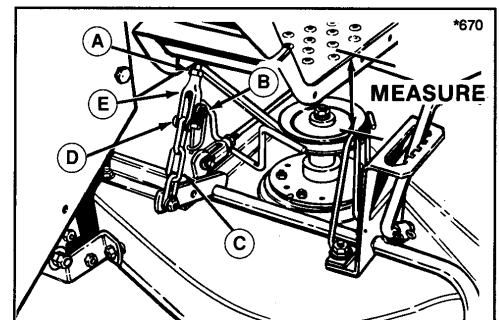

Figure 49. Lift Assembly - Small Lift Lever
2. Measure the distance between top of upstop bracket and top of footrest (figure 49). The measurement should be 3-3/8 inches.
3. To adjust, disconnect clevis (E) from chain. Loosen nut (A) and turn clevis to raise or lower mower. Reconnect chain to check measurement. When correct, tighten nut against clevis.